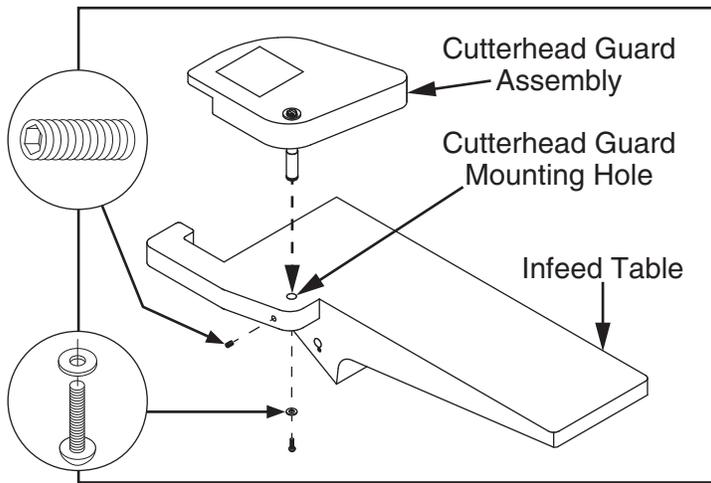

Figure 17. Installing cutterhead guard.
12. Remove 1/4"-20 x 1/2" Phillips head screw and 5/8" flat washer from end of cutterhead guard shaft, loosen set screw in rabbeting table, then slide shaft down through cutterhead guard mounting hole (see **Figure 17**).